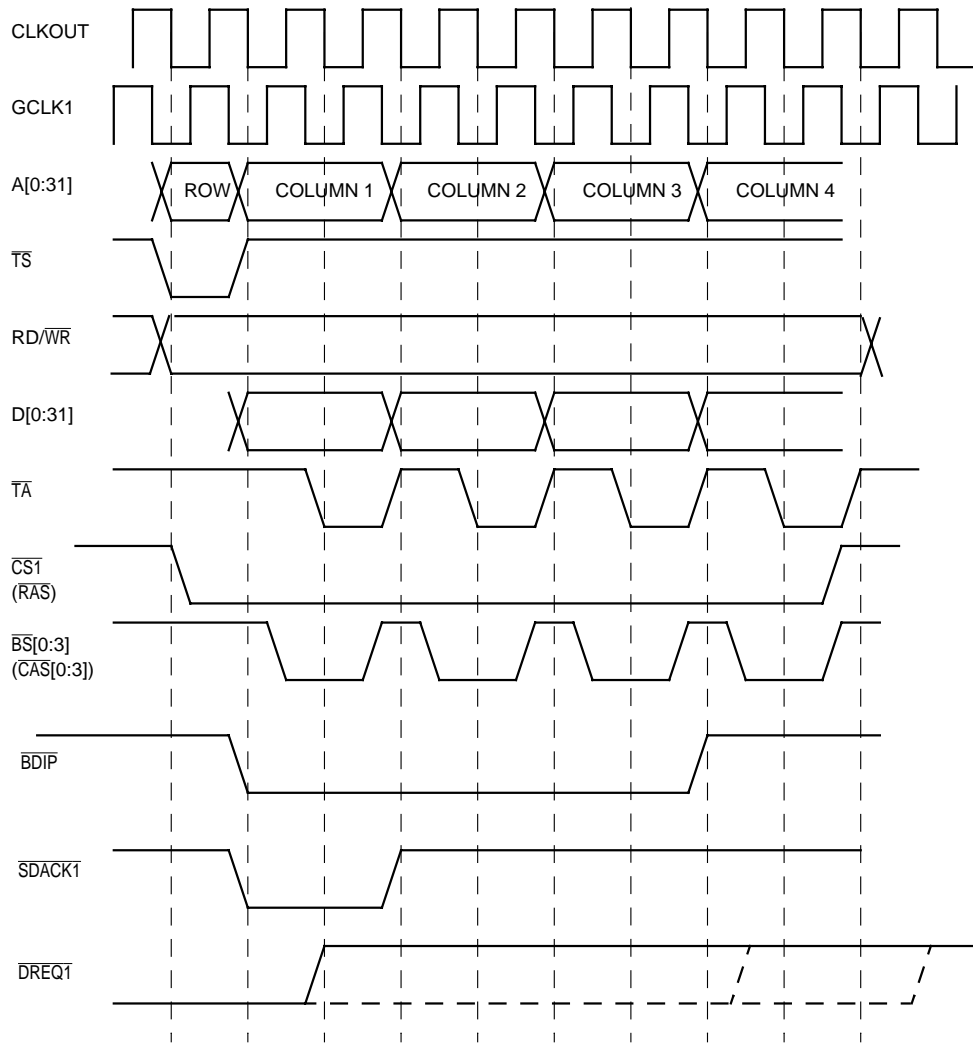

Figure 16-42. IDMA Single-Address Burst Read or Write
**16.6.3.14 SINGLE-BUFFER TIMING.** A typical single-address burst timing when the IDMA is in single-buffer mode is illustrated in Figure 16-42. The peripheral device asserts the  $\overline{DREQ1}$  pin and waits for  $\overline{SDACK1}$  to initiate a burst transfer to or from memory. The peripheral must negate the  $\overline{DREQ1}$  pin before the last beat of the transfer. Otherwise, IDMA will assume that another DMA request is pending and will start another burst cycle right after the completion of the current transfer.